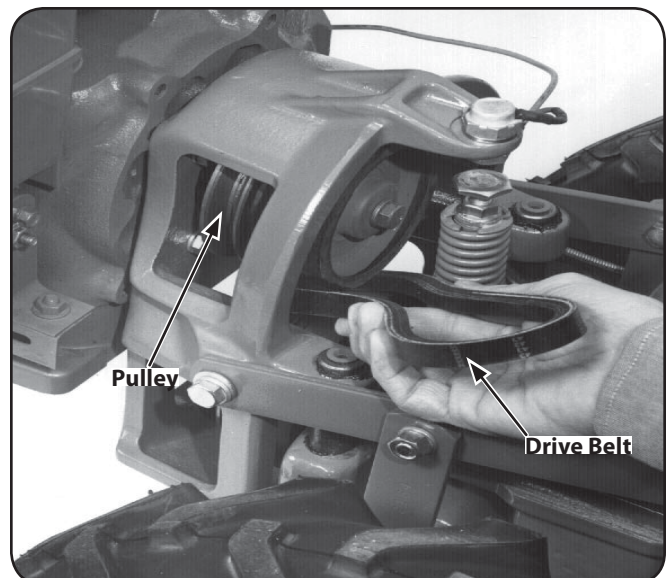

Figure 7-4
6. Push the Wheels/Tines/PTO Drive Lever down into the FORWARD position. This increases the distance between the upper and lower pulleys. Next, lift and pull the entire belt out from between the pulleys. See Fig. 7-4.
8. Squeeze the belt in the middle and insert one end in between the pulleys. See Fig. 7-4.